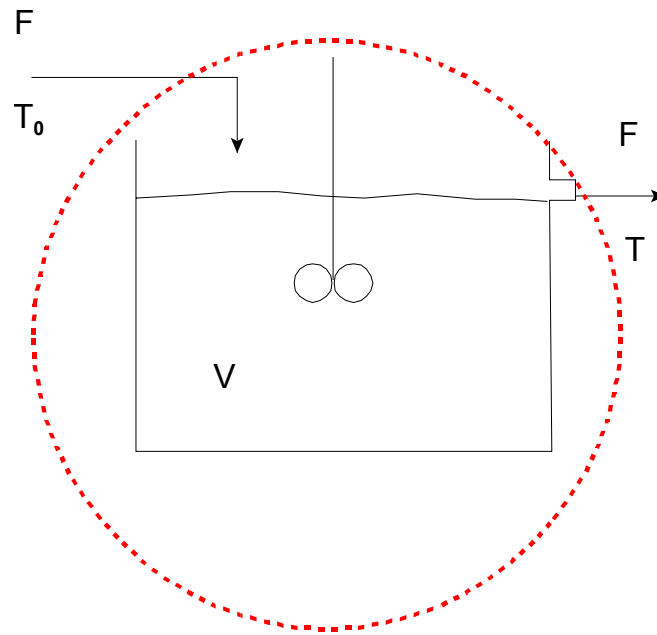

Figure 3.2
- Determine the dynamic response of the tank temperature,  $T$ , to a step change in the inlet temperature,  $T_0$ , for the continuous stirred tank shown in the Figure 3.2 below.